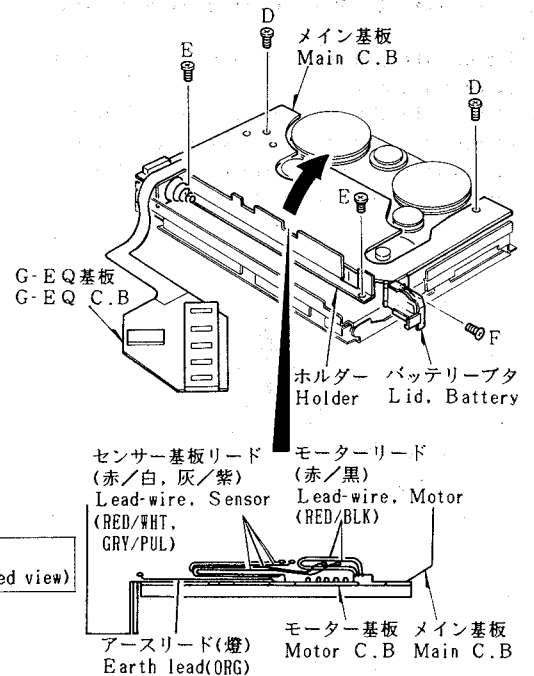

Fig. 3
3) Remove the following screws and extend the lead wires. Lay out the lead wires appropriately when reinstalling the unit. (See Figure 3)
5) Lift up the main circuit board as shown in the figures. (See Figure 3, 5)